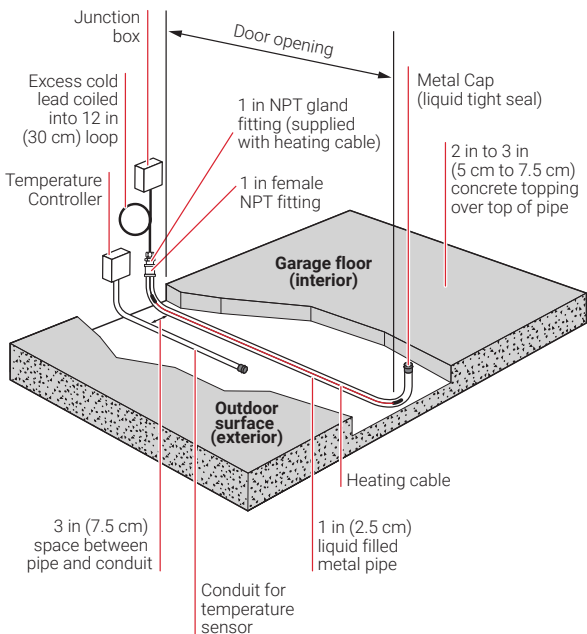

Figure 15: Typical garage door installation
3. Install the 1 in (2.5 cm) pipe for the heating cable so that it is located under the door opening (where the door weather seal will contact the concrete surface) and so that the top of the pipe is about 2 in (5 cm) below the finished level of concrete (see Figure 15).
5. Install the conduit for the slab temperature sensor about 3 in (7.5 cm) away from the heating cable pipe and located in the outdoor section of the slab (see Figure 15). Cap the buried end of the conduit so that it is watertight. Before covering with concrete, check that the temperature sensor will fit past the bend in the conduit. If using an automatic snow/ice sensing controller, follow the manufacturer's recommendations to install the slab snow/ice sensor.
7. Pour the concrete topping to the final finished level – 2 in (5 cm) minimum to 3 in (7.5 cm) maximum above the top of the heating cable pipe as shown in Figure 15, and ensure that it is thoroughly consolidated with a high frequency vibrator. The concrete cover over the heating cables must be reinforced and structurally sound to prevent damage from heavy vehicles.
15. Connect the cold leads to the junction boxes per the recommendations in Section 4 and connect the temperature controller. Excess cold lead can be coiled into a 12 in (30 cm) diameter loop (see Figure 15).